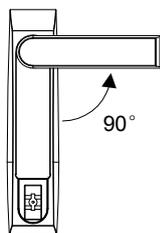

Figure 2-2 Turning the handle
2. Turn the handle counter-clockwise 90°, as shown in Figure 2-2. Pull the handle until the door opens.